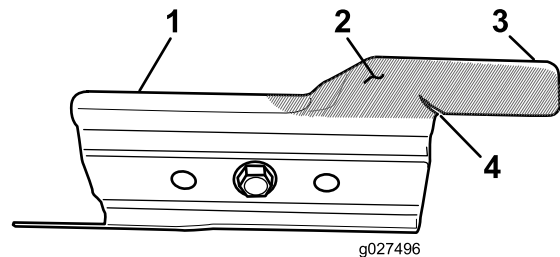

Figure 24
Carefully examine the accelerator for excessive wear (Figure 24). Because sand and abrasive material can wear away the metal (especially in the area shown as item 2 in Figure 24), check the accelerator before using the machine. If you notice that a tab on the accelerator has been worn down to a sharp edge or there is a crack, replace the accelerator; refer to Inspecting the Accelerator (page 23).